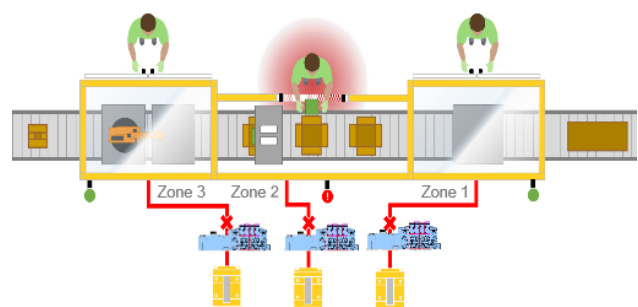

Figure 1: Traditional method
It is worth noting that when used in a continuous cycle fashion as identified below (figure 1), a redundant dump valve's lifecycle capability may not allow the user to achieve the required Performance Level (PL).
With a Zoned Safety approach, a much simpler design is possible that allows safety operation without the need to dump air to the entire manifold. Three independent zones within a single valve system with Zoned Safety capability would independently control the safety function in the three loading stations. The additional valve systems, dump valves, and fieldbus nodes shown in figure 1 would not be required.